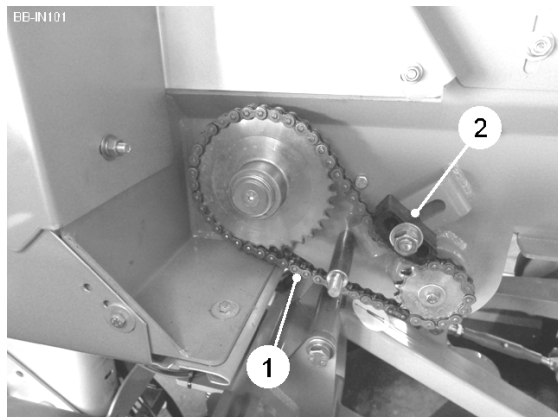

Fig. 21
Each feed belt drive chain Item 1, fig. 21) is fitted with a plastic tensioner (item 2, fig. 21). This will show rapid wear initially, but will settle down when the chain rollers rather than the side plates come into contact with the plastic.